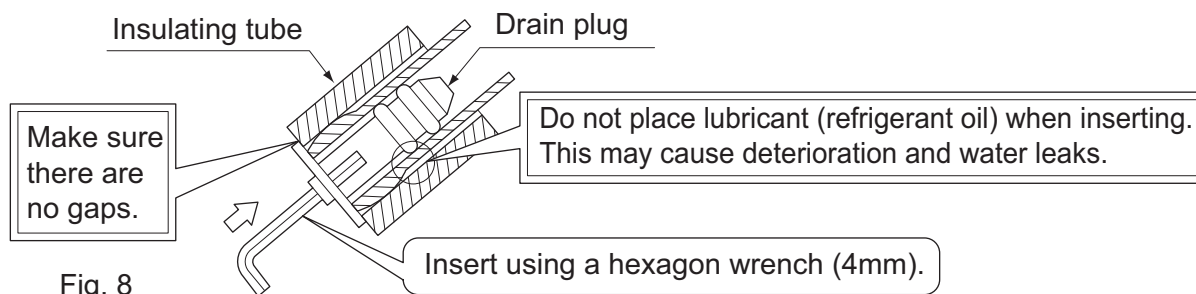

Fig. 8
- Remove the drain plug, the insulation tubing, and the drain hose from the drain pan and replace. **(Refer to Fig. 8)**
- Connect the local refrigerant piping ahead of time, matching it to the liquid pipe and gas pipe marks engraved on the installation plate (1).